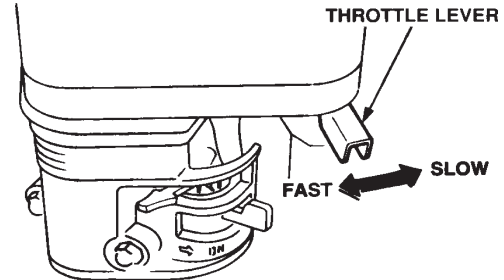

Figure 13. Throttle Lever (FAST Position)
4. Place the **throttle lever** (Figure 13) halfway between **fast** and **slow**.